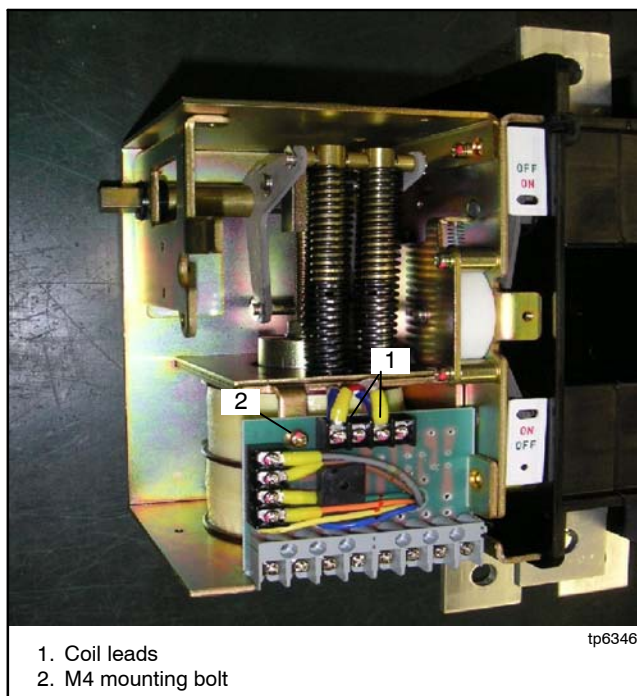

Figure 7-25 Coil leads and PCB mounting bolt
2. Note the connections and then disconnect the coil leads. See Figure 7-25.
4. Remove the M4 bolt and replace the PCB. See Figure 7-25.